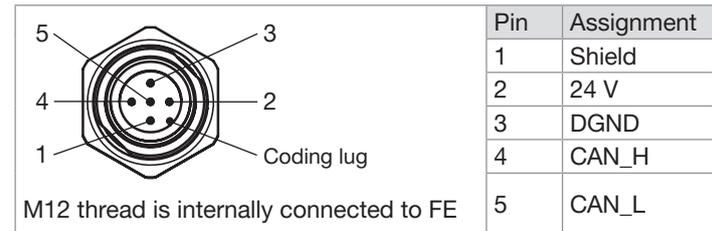

Fig. 17: bÜS /CANopen MFM, bÜS /CANopen MFC:Pin assignment, 5-pin M12 male connector (A coding)
- Insert each conductor into the appropriate pin. Refer to Fig. 17.